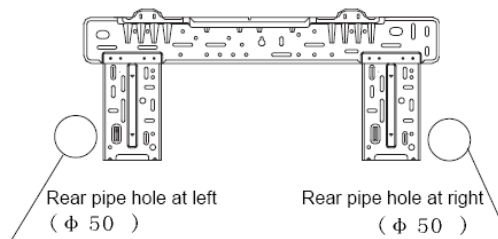

Fig.11-1
- After confirming piping hole location by following fig.11-1, drill an outward slant hole on wall (φ 50).